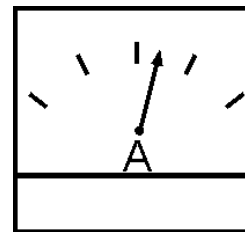

Figure 56. Ammeter (Load)
20. Observe the generator's ammeter (Figure 56) and verify it reads the anticipated amount of current with respect to the load. The ammeter will only display a current reading if a load is in use.